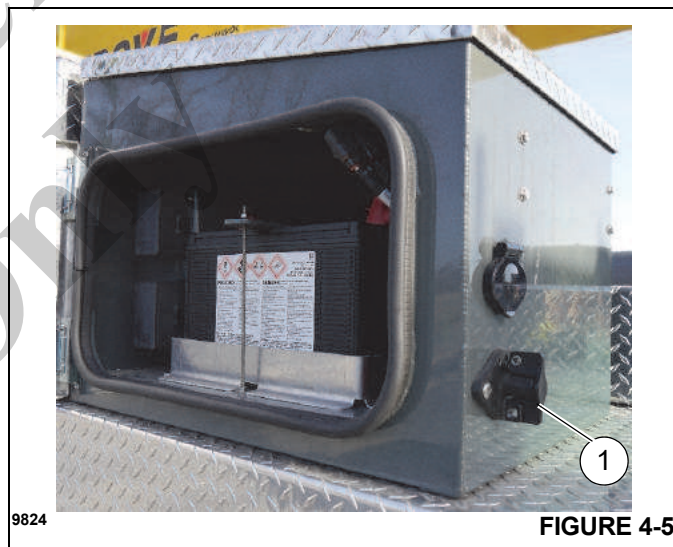

FIGURE 4-5
4. Make sure Battery Disconnect Switch handle (1) (Figure 4-5) is in the ON position.